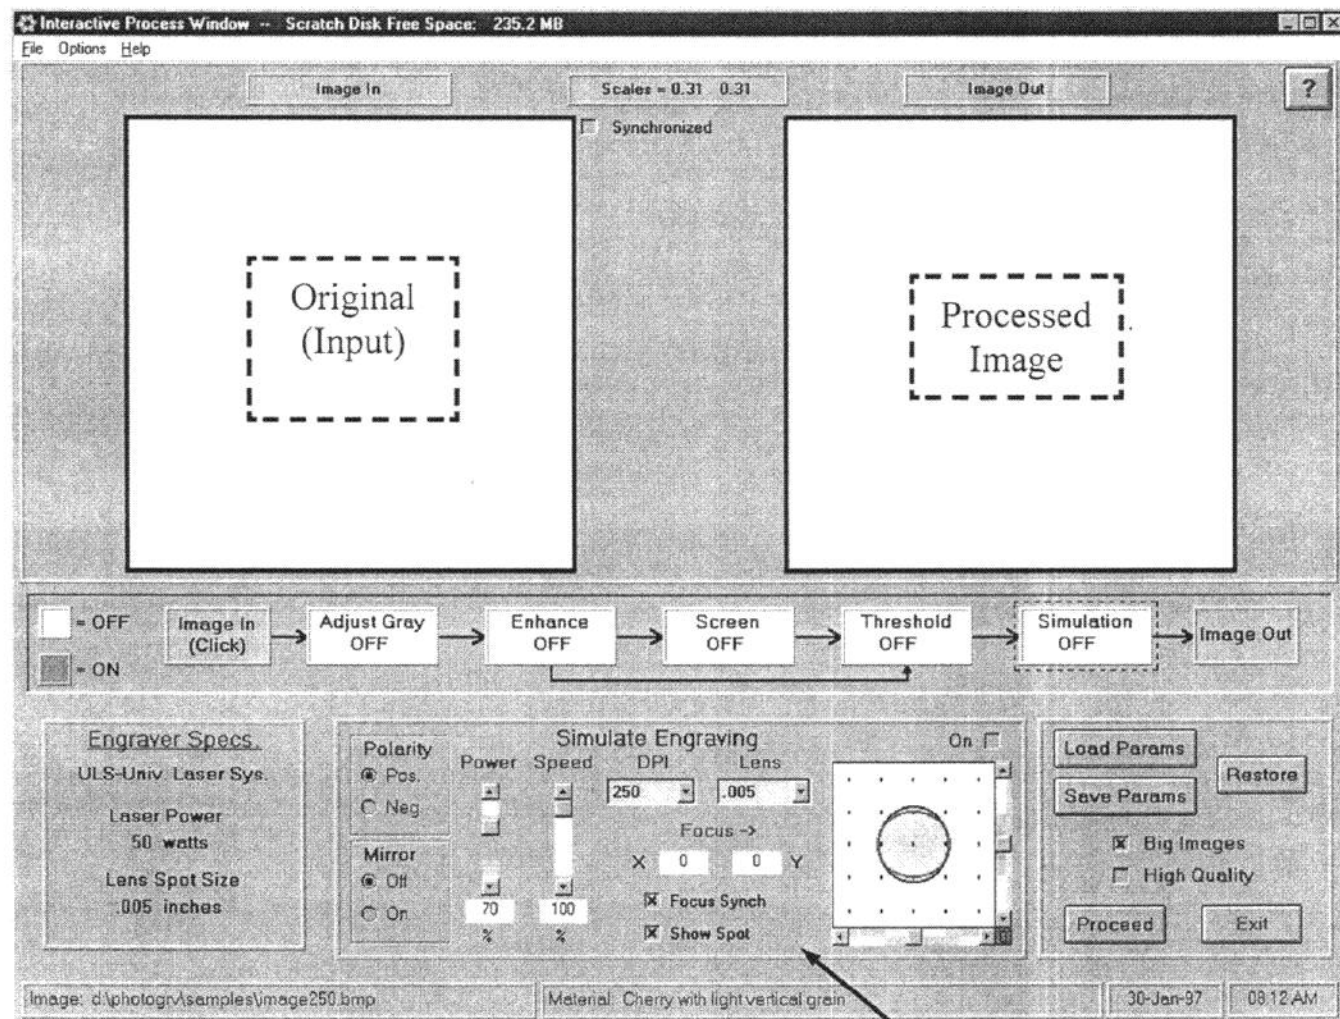
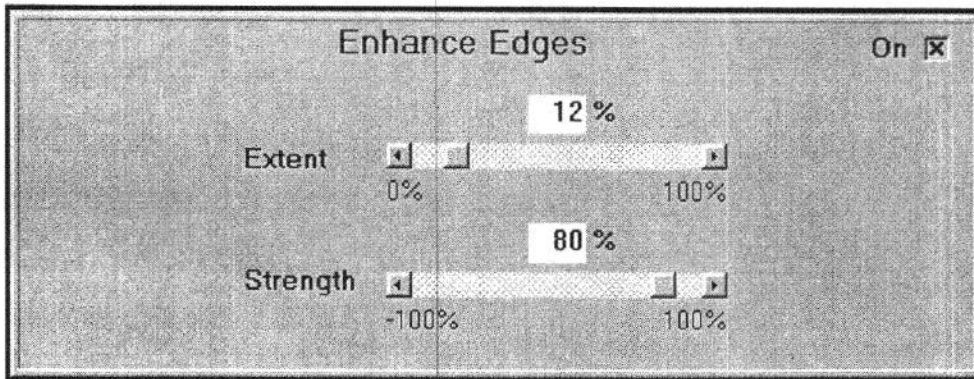
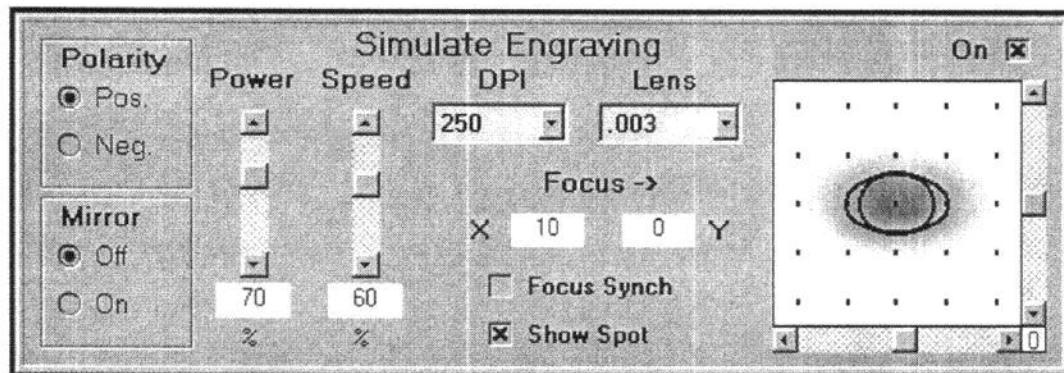

Fig. 3.2-1: Interactive Process Window
Fig 3.2-3: Enhance Edges Function
Fig 3.2-7: Simulate Engraving Function
This window (see Fig. 3.2-1) provides the capability for you to specify or adjust the parameters for all of PhotoGrav's processing functions and to view the results in near real time. The Original (input) image is displayed in the upper-left portion of the window and the processed image is displayed in the upper-right portion of the window.
The five white boxes aligned horizontally in the center of the screen represent PhotoGrav's processing functions and the order in which those functions are applied. **Right** clicking on any of the boxes will toggle the corresponding function ON/OFF. **Left** clicking on any of the boxes causes the parameters corresponding to that function to be displayed in the large center panel near the bottom of the window (the panel indicated in Fig.3.2-1 as **Processing Function Parameters**).
**Right** clicking on any one of the five boxes which represent PhotoGrav’s processing functions (the five white boxes aligned horizontally in the center of the window in Fig 3.2-1) will toggle the corresponding function ON/OFF. When a processing function is ON, the corresponding box is green; when OFF, the box is white. **Left** clicking on any one of the five boxes causes the parameters corresponding to that function to be displayed in the large center panel near the bottom of the window (the panel indicated in Fig.3.2-1 as **Processing Function Parameters**). The panels containing the controls for all five of PhotoGrav’s processing functions are displayed and described in the following Section 3.2.2.2.
The panel corresponding to the “**Adjust Grayshade**” processing function is shown in Fig. 3.2-2. This panel can be made visible by **Left** clicking the “**Adjust Gray**” function box near the left-center portion of the **Interactive Process** window depicted in Fig. 3.2-1.
The left and right triangles below the horizontal axis specify the black and white clipping values, respectively, for the "Adjust Grayshade" function, i.e., all grayshades to the left of the left triangle are set to black (zero) and all grayshades to the right of the right triangle are set to white (255) and the grayshades between are linearly scaled. The "Black" and "White" labels to the left of the distribution specify quantitatively the black and white clipping values (38 and 255, respectively, for the distribution in Fig. 3.2-2). The clipping values can be changed by "clicking and dragging" the triangles. As a result, the "Black" and/or "White" quantitative values will change and the effect will show up as a change in the Processed Image pictured in Fig. 3.2-1 as the right-hand thumbnail. The clipping values can also be changed by clicking the "Auto Gray" command button. This action causes PhotoGrav to calculate the "1%" clipping values for the grayshade distribution, i.e., the grayshade values between which lie 98% of all grayshades in the image. PhotoGrav then sets the triangles to these values and the resulting effect shows up on the Processed Image. (Note: All the engraving materials and named parameter sets delivered with PhotoGrav specify that the "Auto Gray" function be performed automatically so it is usually unnecessary to explicitly perform this function).
The "On" check box in the upper right corner of Fig. 3.2-2 indicates that the "Adjust Grayshade" function is applied to the image data if the box is checked; otherwise the function is NOT applied to the image data and has no effect regardless of the parameter settings discussed above. Clicking this check box is equivalent to **Right** clicking the "Adjust Gray" function box pictured in Fig. 3.2-1 and discussed briefly in Section 3.2.1. If the "On" box is checked, the function box will be green; if it is unchecked, the function box will be white.
The panel corresponding to the “**Enhance Edges**” processing function is shown in Fig. 3.2-3. This panel can be made visible by **Left** clicking the “**Enhance**” function box near the center of the **Interactive Process** window depicted in Fig. 3.2-1.
The “**Enhance Edges**” function provides the capability to both “smooth” the image and to enhance the image’s edges. As with the “**Adjust Grayshade**” function, if the “**On**” checkbox is checked, then the function affects the image data; otherwise, if unchecked, there is NO effect regardless of the parameter settings. If the function is ON, then the “**Enhance**” function box pictured near the vertical center of Fig. 3.2-1 should be green; otherwise, if the function is OFF, then the box should be white.
The “Extent” parameter pictured in Fig. 3.2-3 can be modified by entering a value directly in the appropriate white box (contains “12” in Fig. 3.2-3) or by clicking the horizontal scroll bar to the right of the “Extent” label. Clicking on an arrow at either end of the scroll bar changes the existing value by 1% whereas clicking in the scroll bar itself changes the existing value by 10%. The extent parameter specifies the relative size of the area around each pixel which is “smoothed”. Small values indicate relatively little smoothing whereas large values specify relatively large smoothing.
Although PhotoGrav automatically sets parameter values appropriate to each engraving material, it is a good idea for you to experiment with the “Extent” and “Strength” parameter settings to get a feel for their effect which at times can be rather dramatic. An interesting way to do this is to have the “Simulation” ON (see Fig. 3.2-1) and to turn the “**Enhance Edges**” function alternately ON and OFF to observe the effect.
The panel corresponding to the “**Select and Apply Screen**” processing function is shown in Fig. 3.2-4. This panel can be made visible by **Left** clicking the “**Screen**” function box near the center of the **Interactive Process** window depicted in Fig. 3.2-1.
The “**Select and Apply Screen**” function provides the capability to “screen” or “dither” the image in preparation for thresholding which follows this function. If the “**On**” check box in the upper right hand corner of Fig. 3.2-4 is checked, then the “**Select and Apply Screen**” function is ON and affects the image data; otherwise, if the box is not checked, there is no effect regardless of the parameter settings. If the function is ON, then the “**Screen**” function box near the center of Fig. 3.2-1 will be green; otherwise, if the function is OFF, then the box will be white.
For Pattern Dithering, the appearance of the Processed Image thumbnail display (to the upper right in Fig. 3.2-1) is very sensitive to the scale factor at which the Processed Image is displayed. This sensitivity results from resampling the Processed Image to fit the display area. To get the most accurate idea of what the processed image really looks like, the scale factor should be one or larger (see Sec. 3.2.2.1 for a brief discussion of scale factors). Also, one can “**Proceed**” to the **Engraving Results** window (and then ReProcess if necessary) to achieve a better display of the Processed Image.
The panel corresponding to the “**Combine Image with Screen and Threshold**” processing function (shortened to **Threshold** function in the following) is shown in Fig. 3.2-6. This panel can be made visible by **Left** clicking the “**Threshold**” function box located near the right-center of the **Interactive Process** window depicted in Fig. 3.2-1.
Note the functional “flowchart” depicted in the vertical center of Fig. 3.2-1 and note that the outputs from both the “**Enhance**” and the “**Screen**” functions serve as inputs to the “**Threshold**” function. The “**Threshold**” function linearly combines these two inputs, pixel by pixel, with variable weights, before thresholding the result to create an “Engraver-ready” binary image.
The panel corresponding to the “**Simulate Engraving**” processing function is shown in Fig. 3.2-7. This panel can be made visible by **Left-clicking** the “**Simulation**” function box located near the right-center of the **Interactive Process** window depicted in Fig. 3.2-1.
The “**Simulate Engraving**” function provides the capability to simulate the engraving on the selected material and with the processing parameters currently in effect. The “**On**” check box in the upper right corner of Fig. 3.2-7 indicates that the “**Simulate Engraving**” function is active if the box is checked: otherwise the function is not active and no simulation occurs regardless of any of the parameter settings. Clicking this check box is equivalent to **Right-clicking** the “**Simulation**” function box pictured in the right center of Fig. 3.2-1. If the “**On**” box is checked, the function box will be green; if it is unchecked, the function box will be white.
The text box labeled “**DPI**”, containing the value 250 in Fig. 3.2-7, specifies the Engraver resolution, NOT the image resolution, in dots per inch. This text box is part of a drop-down list and other available resolutions, if any, can be made visible by clicking the down arrow at the right of the box. Clicking any item in the list will cause that item to become the Engraver resolution and will cause the list to collapse with the selected resolution visible in the text box. The text box labeled “**Lens**”, containing the value .003 in Fig. 3.2-7, specifies the effective spot size (diameter in inches) for the Engraver lens. (Some laser engraver manufacturers designate their machines’ lenses as “high-resolution”, “normal”, etc. If the effective spot sizes for your lenses is unknown to you, check the documentation for your laser engraver, or call the manufacturer, to determine the effective spot sizes). Other available lenses, if any, can be made visible and selected in the same manner as the engraver resolution.
The large square box to the right of Fig. 3.2-7, containing 25 dots and with scroll bars on its right and bottom sides, contains graphic representations of the *simulated effect of the laser spot on the selected engraving material*. Each dot in the 5 x 5 array of dots represents a location where the laser will be positioned for a possible "burn" (the 5 x 5 array could be positioned anywhere within the engraving material - its location is irrelevant). The *effect* of a "burn" is then represented for the central dot using two different representations.
For the first representation, an elliptical curve is drawn that indicates where the "burning" effect has dropped to half its maximum value (the effect of the laser spot is modeled as a two-dimensional Gaussian curve). Note that in Fig. 3.2-7 there are two curves. On your computer monitor, one of these curves would be blue and the other red. The blue curve represents the laser spot *effect* when the **Interactive Process** window was first entered; the red curve represents the current laser spot *effect* reflecting any changes you might have made that would alter that *effect* e.g., a change in the engraver lens or a change in lens focus.
The second representation is a two-dimensional representation of the laser spot *effect* and is visible whenever the "Show Spot" check box, located at the bottom center in Fig. 3.2-7, is checked. For positive polarity materials (positive and negative polarities are discussed below), the *effect* is represented as a darkening of the white background, i.e., like a "burn" on wood. Figure 3.2-7 shows the representation for a positive polarity material. For negative polarity materials, the *effect* is represented as a brightening of a black background.
The horizontal and vertical scroll bars, on the bottom and right sides of the square box, control the simulated focus of the laser spot. The horizontal scroll bar specifies the X-Focus (along scan) and the vertical scroll bar specifies the Y-Focus (across scan). The numeric values for the X-Focus and Y-Focus appear in the white text boxes, appropriately labeled, near the center of Fig. 3.2-7. Numeric values can also be entered directly into these text boxes. Values for both the X- and Y-Focus range from -100 to +100 with negative values representing sharper focus and positive values representing a more blurred focus. If the "Focus Synch" check box is checked, then the X- and Y-Focus values are always the same, i.e., any change in one is also made to the other. If the small square with a zero in the lower right corner of Fig. 3.2-7 is clicked, then both X- and Y-Focus values are zeroed. The focus of the laser spot is simulated for the reasons discussed in Sec. 2.2.
The "Polarity" panel, in the upper left corner of Fig. 3.2-7, provides the capability to set the polarity of the Engraved and Simulation images. Positive polarity materials are those for which the laser, when on, causes the engraving material to become darker, e.g., most woods. Negative polarity materials are those for which the laser, when on, causes the engraving material to become lighter, e.g., black laser brass and acrylics. The "Mirror" panel, in the lower left corner of Fig. 3.2-7, provides the capability to "mirror-image" (flip left to right) the Engraved and Simulation images. This feature is useful for materials like acrylic which are recorded on the "back" of the engraving material but viewed from the front. For various reasons, discussed in Sec. 2.2, the processed image is not shown "mirrored" in the Processed Image thumbnail (see Fig. 3.2-1) but rather the Engraved and Simulation images are flipped only when written to disk and/or in the final step of the **Text/Resize** window.